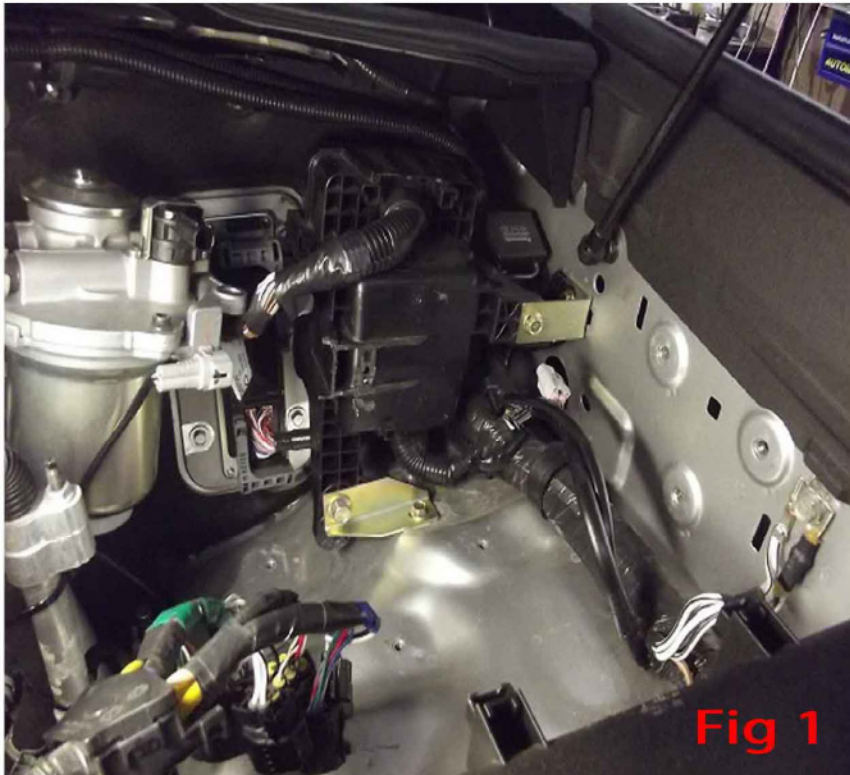

Fig 1
1. Disconnect wiring plugs from fuel filter & unbolt filter from inner guard (discard bracket & bolts). **Fig 1**
5. Use folded 'angle iron' bracket at the bottom (M8x25mm bolt, body washer & nut to box & M6x15mm bolt, nut & body washer in existing hole on wheel arch) & 25mm wide 'L' bracket at the top (M6x15mm & nut to box & M6x15mm to captive nut in inner guard) to remount junction box on its side. **Fig 1**